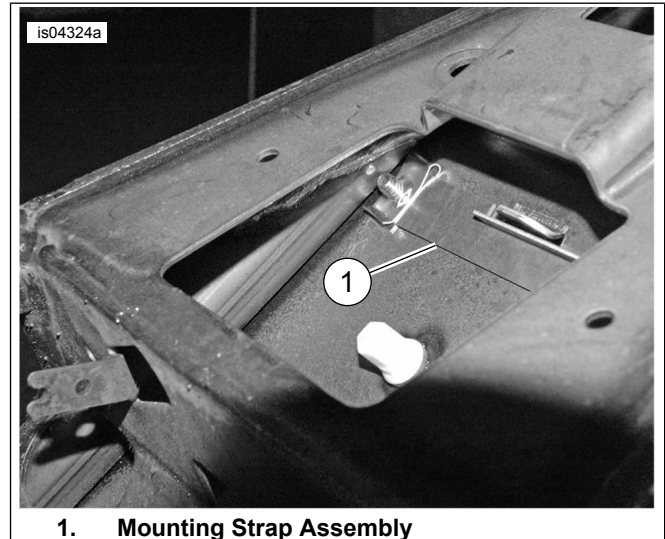

Figure 2. Mounting Strap Location - View of Frame from Above with Seat Removed
4. See Figure 2. Install mounting strap assembly (1) through window of frame. Position strap so speed nuts are aligned over the 1/4 inch diameter holes in frame as shown.